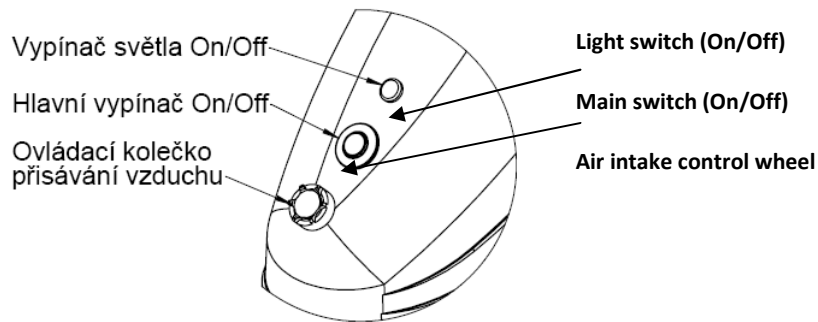

Fig. 7
- After being mechanically anchored, connected to the mains supply and reinstallation of the covers the equipment is ready for putting it into operation. The counter-flow unit is started using the pneumatic push-button shown in Fig. 7. The equipment is vented automatically